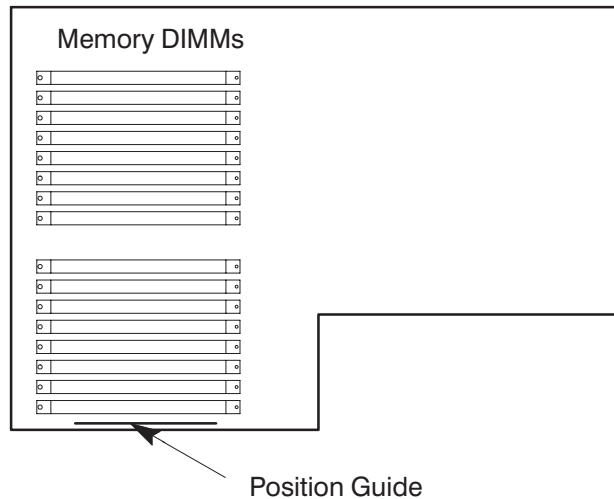

Figure B-23. CPU Assembly Orientation
6. To install a new memory DIMM, turn the CPU assembly until the memory DIMMs are in the position shown in Figure B-23.
7. Refer to the Position Guide on the CPU board that states, “<— POSITION MEM MODULE AS SHOWN,” as shown in Figure B-23.